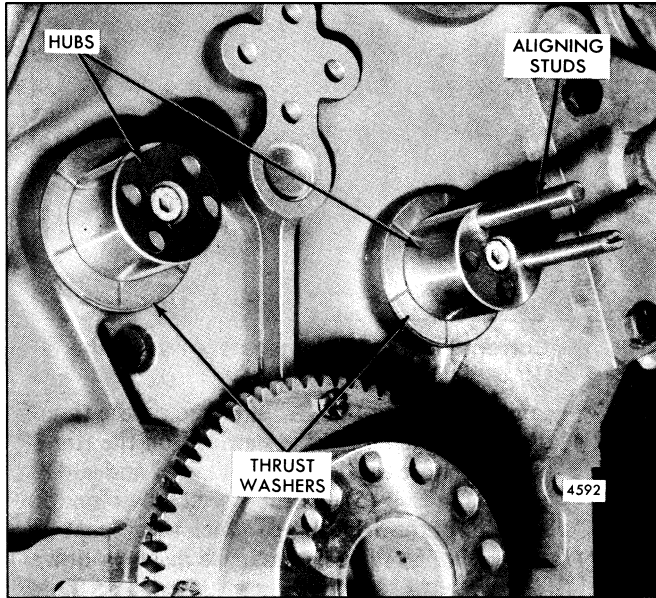

Fig. 5 - Aligning Front Gear Train Idler Gear Hubs
1. Place the inner thrust washers (grooved side facing gears) and gear hubs in position on the cylinder block. Install the center special drilled bolts, but do not tighten the bolts at this time (Fig. 5).
3. Fabricate two (2) aligning studs from 1/2"-13 x4—3/4" bolts (cut off the heads of the bolts).
4. Install the aligning studs through the crankshaft idler gear hub outer bolt holes in the same manner, as shown in Fig. 5 for installing the front idler gear hubs.